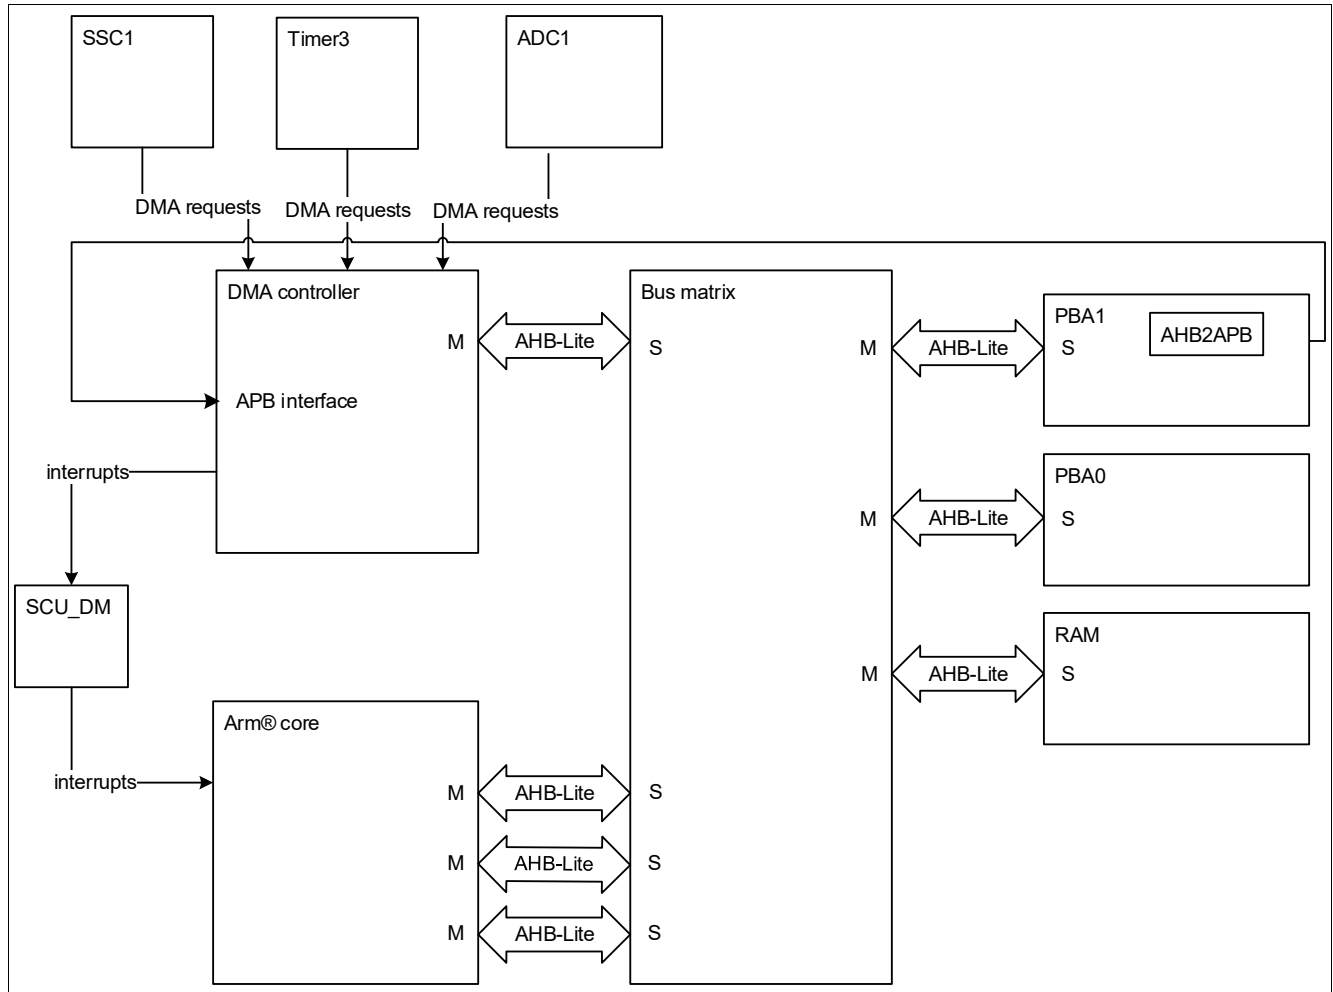

Figure 12 DMA controller top level block diagram
**Figure 12** shows the top level block diagram of the TLE9872QXA40.